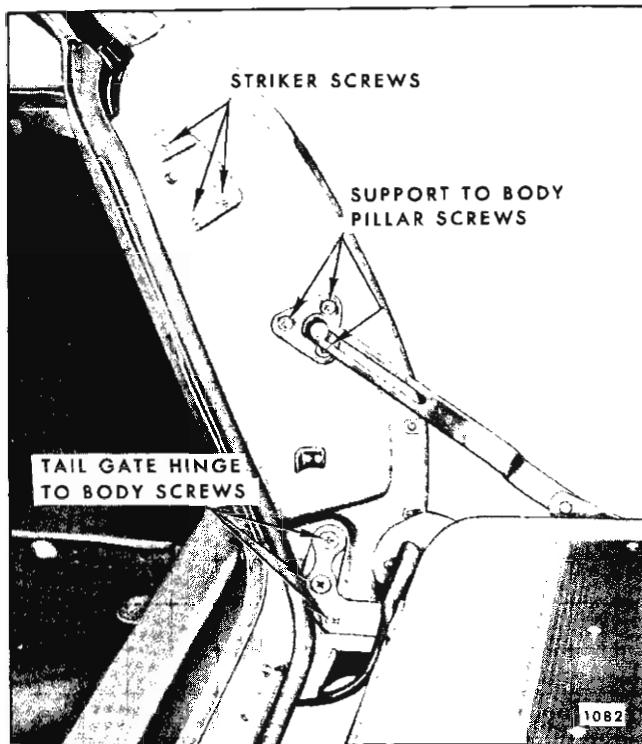

Fig. 2F22—Rear Body Pillar Hardware — Right Side
2. Remove screws securing support to body (Fig. 2F22) and support to tail gate (Fig. 2F21) and remove support assembly.
3. Through tail gate inner panel access holes, remove window regulator attaching screws and remove regulator (see Fig. 2F23).